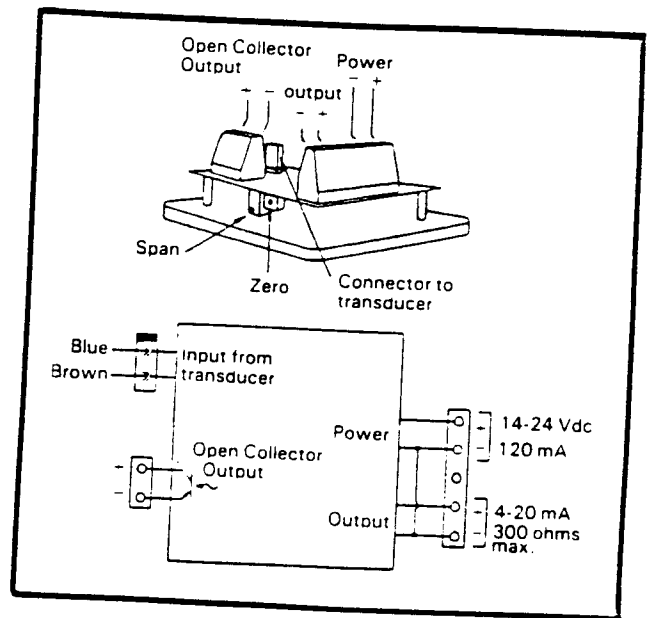

Figure 3-1. Signal Conditioner Connections
3.1.1 Span and Zero Adjustment (Refer to Figure 3-1)